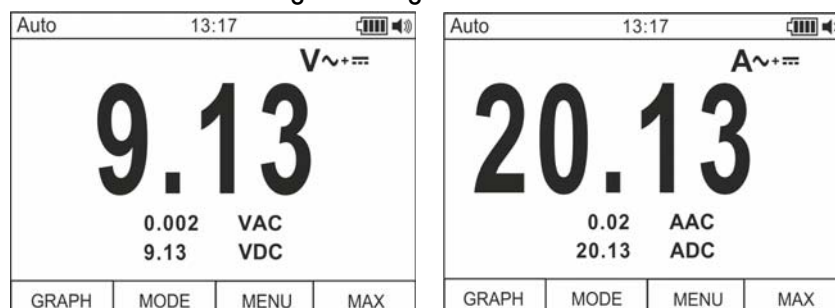

Fig. 3: AC+DC voltage or current measurement description
2. Press the **F2** key selecting the “**V~+~**” or “**A~+~**” modes (see Fig. 3)